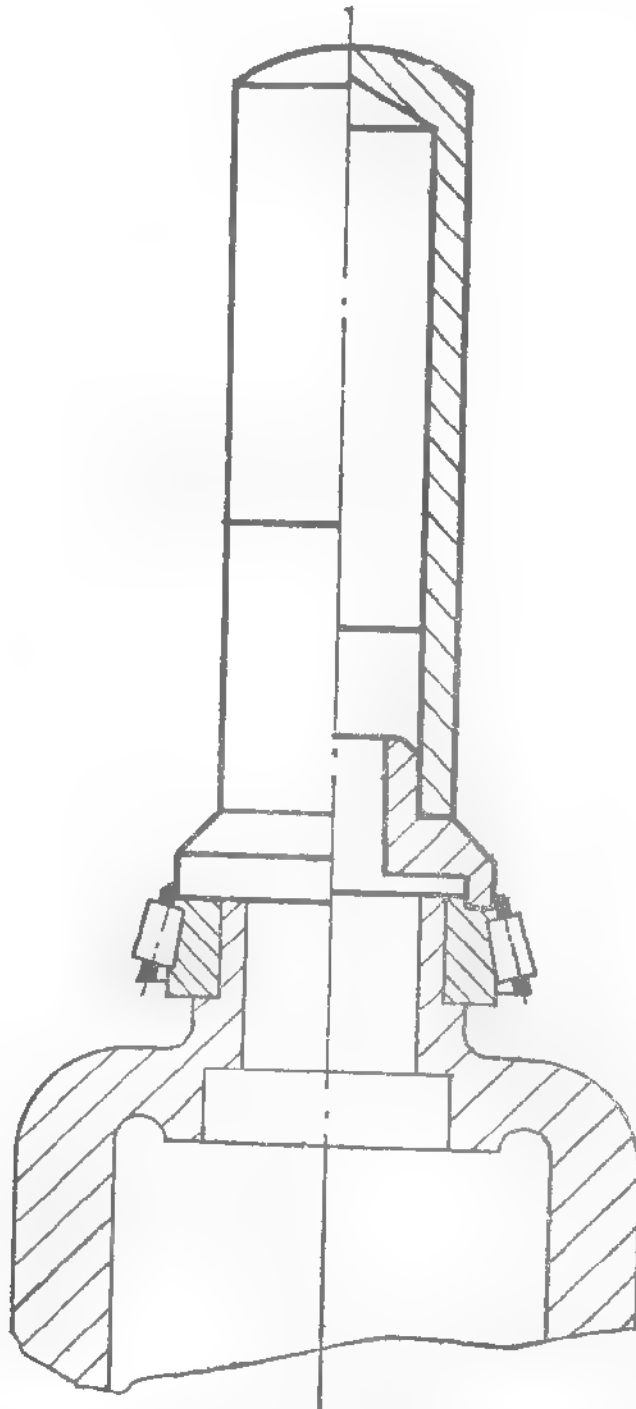

Fig. 4.120. PRESSING DIFFERENTIAL CASE BEARING INNER RACE
- Fit on the differential gear case bearings, by means of S 129 hollow drift (see Fig. 4.120).
- Fit the two bearing on the gear case, using S 129 hollow wrench (see Fig. 4.120).